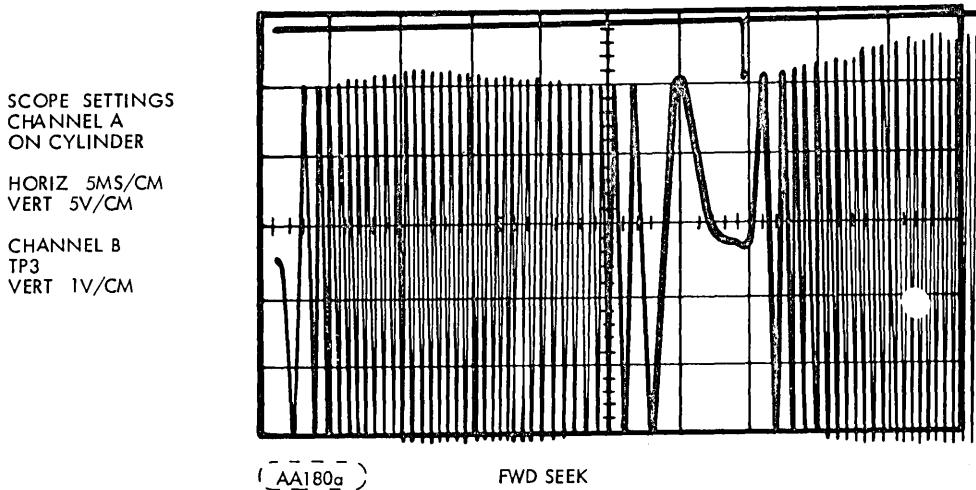

FIGURE LE 3-7. FORWARD SEEK
27. By resyncing oscilloscope obtain a reverse seek waveform (see Figure LE 3-7). The peak to peak amplitude of the last full sinewave before "On Cylinder" goes negative must be 5 ± 5 volts.